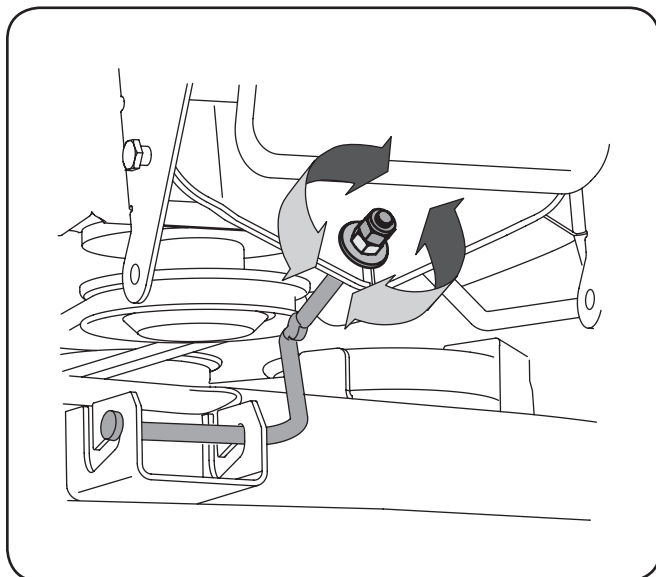

Figure 6-3
3. Locate the jam nut and lock nut on the front side of the stabilizer bracket. See Figure 6-3.